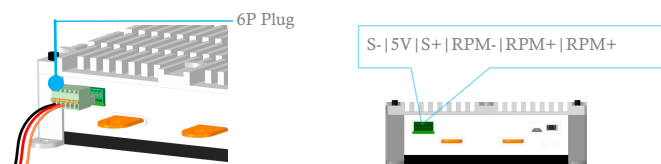

Fig. 4: Signal wiring diagram
- Step 3:** Connect the 6P plug (which assembles with signal wires) into the 6P port (pls view Fig.4);